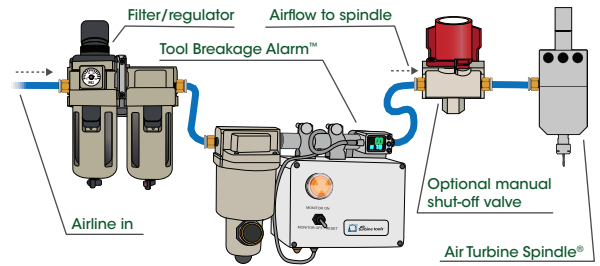

Figure 14: System monitor airline diagram showing the connection from a filter/regulator to the Tool Breakage Alarm™ and then to the Air Turbine Spindle®.
3. Connect the airline to the filter supplied with the spindle to the airline from your compressor. From the filter connect the air line into the Tool Breakage Alarm™ monitor inlet port as shown in **figure 14**.